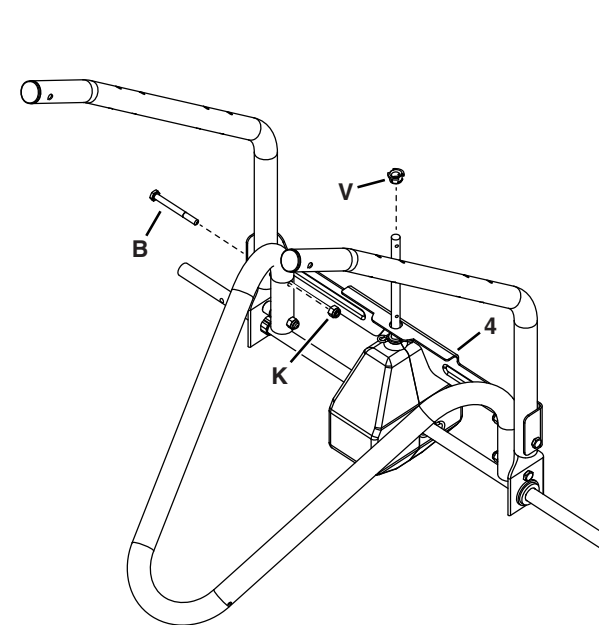

Figure 3
STEP 3: (SEE FIGURE 3)
- Secure together the stand tube (7) and hopper support tubes (8) as shown, using two 1/4" x 2-1/2" hex bolts (B) and 1/4" nylock nuts (K). **Do not tighten completely.**